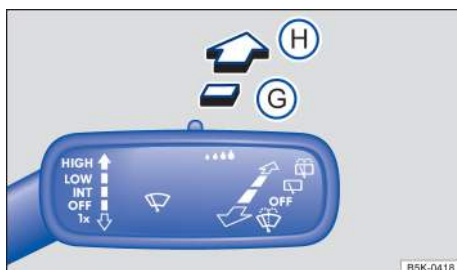

Fig. 81 Operating the rear wiper.
→ fig. 81, → ⑧:
- ⑧ Intermittent wiping for the rear window. The wiper wipes about every 6 seconds.
- ⑨ Press the lever forward as far as it will go to activate the rear window washers, then release to stay in intermittent wiping mode (position ⑧). Pull the lever toward the steering wheel to turn the rear wiper off.